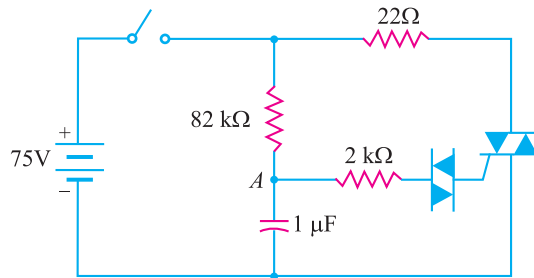

Fig. 21.23
**Example 21.6.** In Fig. 21.23, the switch is closed. A diac with breakover voltage  $V_{BO} = 30V$  is connected in the circuit. If the triac has a trigger voltage of  $1V$  and a trigger current of  $10\text{ mA}$ , what is the capacitor voltage that triggers the triac?